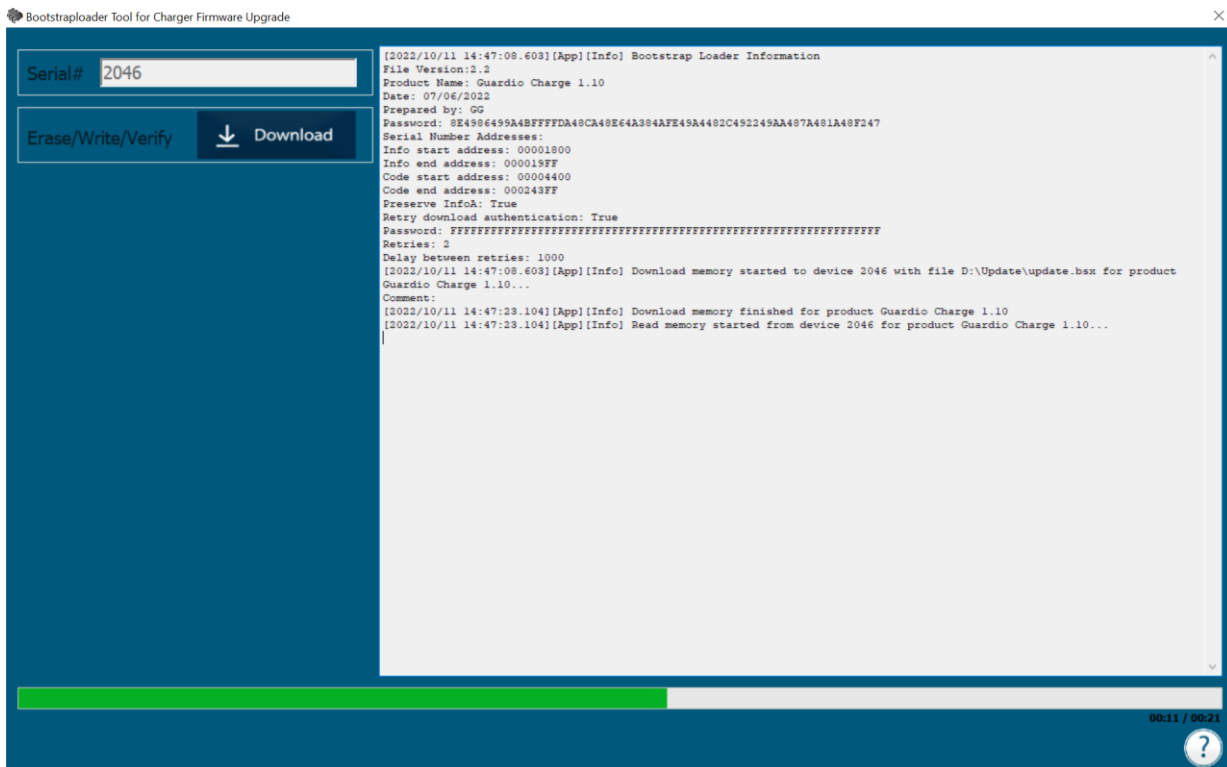

Figure 85: Bootstraploader Screen Indicating Charger Firmware Upload Has Begun
13. Verify that the Bootstraploader tool has begun loading the Charger firmware on the Guardio/Vesta Charger. **See Figure 85.**